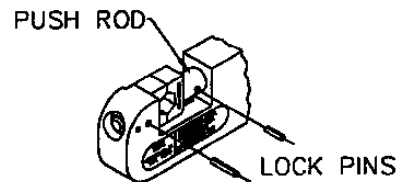

FIG. 4
**CAUTION:** BEFORE ATTEMPTING TO REMOVE DIES FROM TOOL, ASSURE THAT ALL LOCK PINS HAVE BEEN REMOVED (SEE FIGURE 4). FAILURE TO DO SO MAY RESULT IN SERIOUS DAMAGE TO THE TOOL.
2. Drive lock pins, supplied with dies, through holes and flush with outside surfaces. Long pin through tool body and short pin through push rod. (see Figure 4)